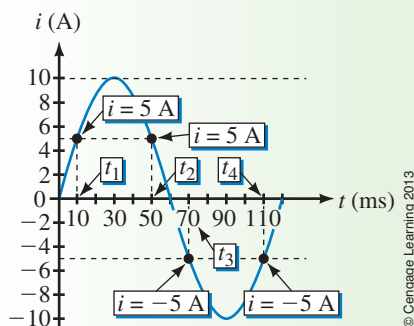

FIGURE 15-30
- Mark the end of the cycle as 120 ms, $\frac{1}{2}$ cycle as 60 ms, $\frac{1}{4}$ cycle as 30 ms, and so on. Draw the sine wave so that it is zero at $t = 0$, 10 A at 30 ms, 0 A at 60 ms, -10 A at 90 ms, and ends at $t = 120 \text{ ms}$. (See Figure 15-30.)
- Consider Figure 15-30. As you can see, there are two points on the waveform where $i = 5$ A. Let these be denoted t_1 and t_2 , respectively. First, determine ω :
Thus, $t_1 = \alpha_1 / \omega = (0.5236 \text{ rad}) / (52.36 \text{ rad/s}) = 0.01 \text{ s} = 10 \text{ ms}$. This is indicated in Figure 15-30. Now consider t_2 . Because of symmetry, t_2 is the same distance back from the half-cycle point as t_1 is in from the beginning of the cycle. Thus, $t_2 = 60 \text{ ms} - 10 \text{ ms} = 50 \text{ ms}$.
If a sine wave does not pass through zero at $t = 0$ s as in Figure 15-30, it has a **phase shift**. Waveforms may be shifted to the left or to the right (see Figure 15-31). For a waveform shifted left as in (a),